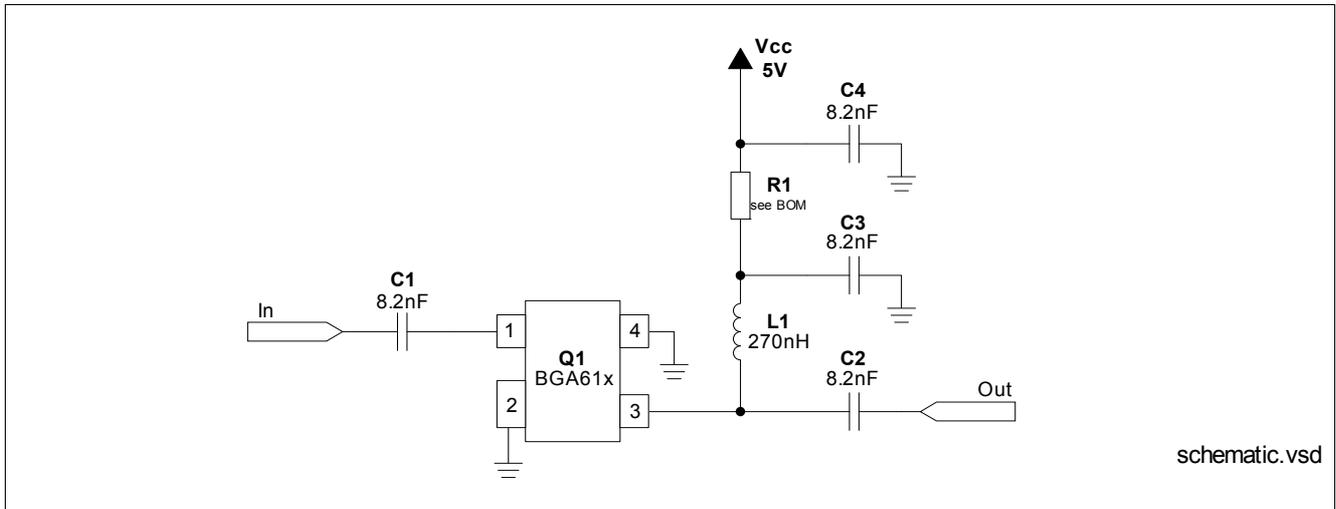

Figure 5 Typical Schematic
**Figure 5** and **Table 2** show the typical schematic and bill of material when using one of the three MMICs as an LNA in TV tuner applications.